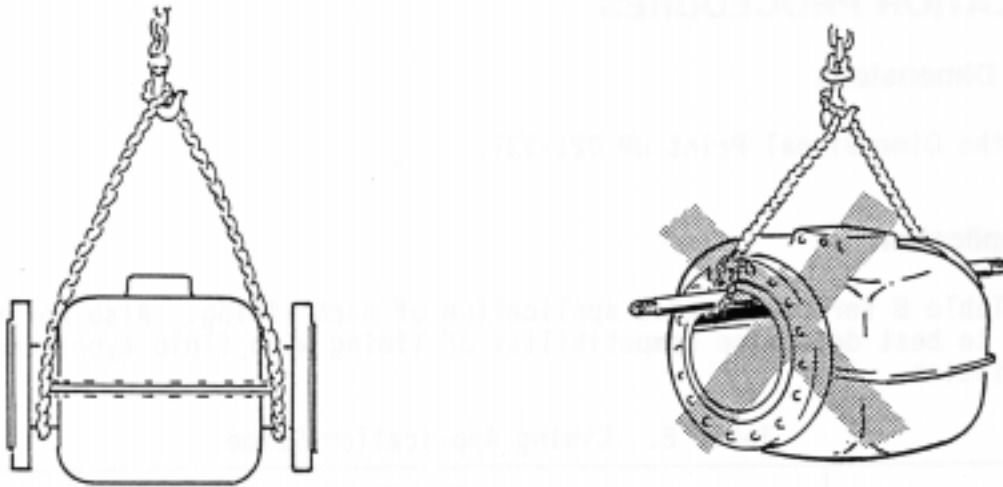
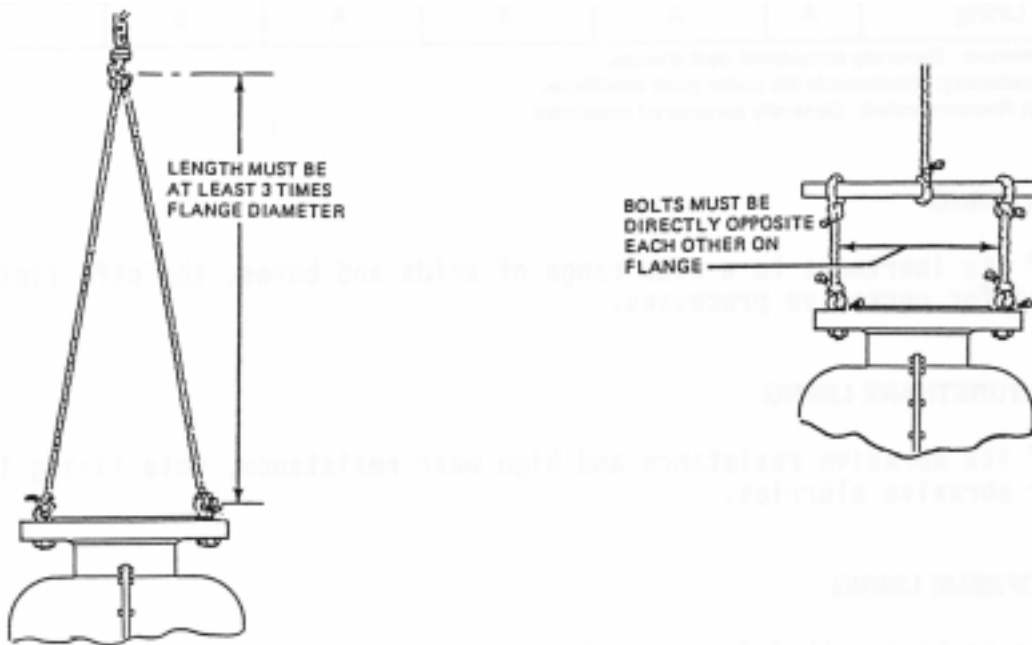

Figure 2. Lifting Flanged Flowtube for Horizontal Mounting (14 to 36 in Size Shown)
Figure 3. Lifting Flanged Flowtube for Vertical Mounting (14 to 36 in Size Shown)
2. Do not use the housing to support or lift the flowtube. Figure 2 and Figure 3 show correct and incorrect methods for lifting the flowtubes. Note that in Figure 2 (horizontal lifting), the suggested approach is to place the lifting rope between the flange and flowtube body. For vertical lifting, shown in Figure 3, the use of eye bolts in the flange to which the lifting rope is attached is the preferred method. This ensures that the lifting force is applied to the eye bolts as nearly straight upward as possible.